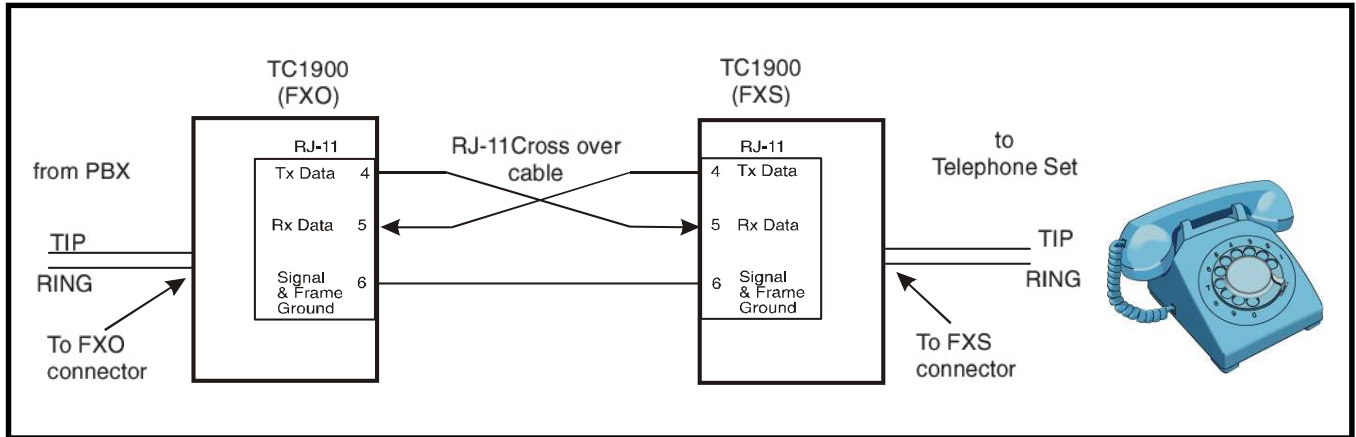
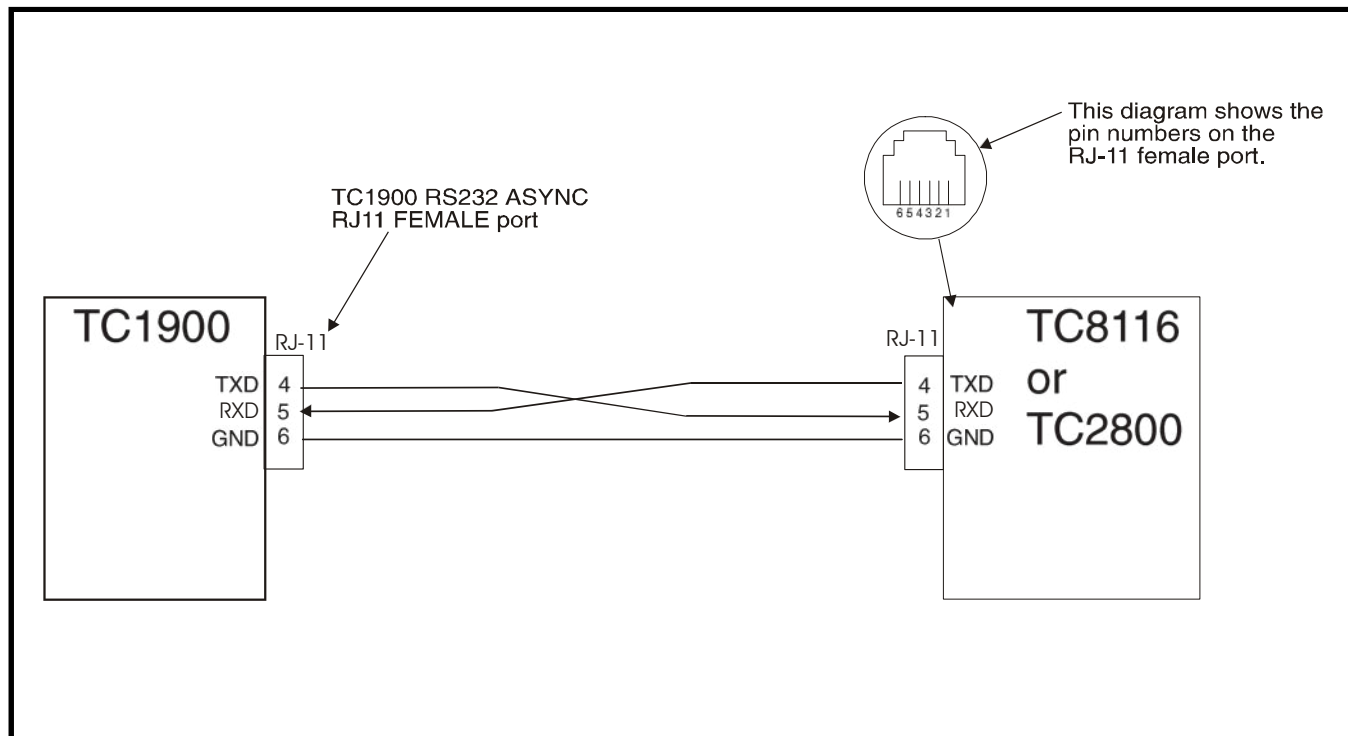

Figure 8. RJ11 Cable for "Line Extender" of the TC1900s
Figure 9. RS-232 (RJ-11) Connections Diagram
4. Connect Unit A and Unit B as shown on Figure 8 below.
If the TC1900's are purchased with other TC Communication's products, (such as TC2800, 8116, and 8300...etc.) The cable assembly (shown in Figure 8) will be provided for connection between TC1900 and other TC products. Figure 9 provides the pin assignment and proper connection between the RJ-11 connectors.